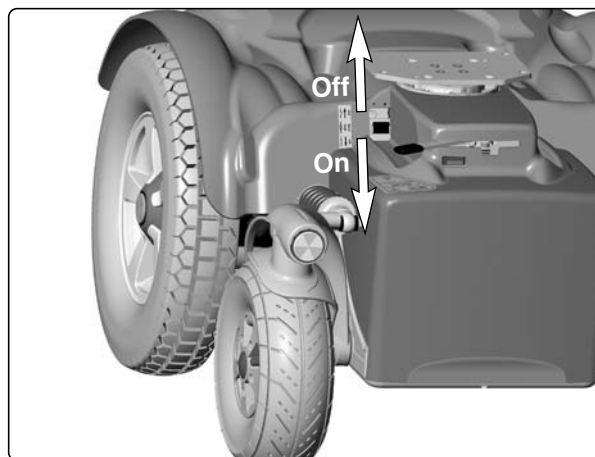

Fig. 53. Circuit breaker/Battery isolator.
1. Put the circuit breaker in the "OFF" position; see figure 53.
1. Put the circuit breaker in the “OFF” position; see figure 53.